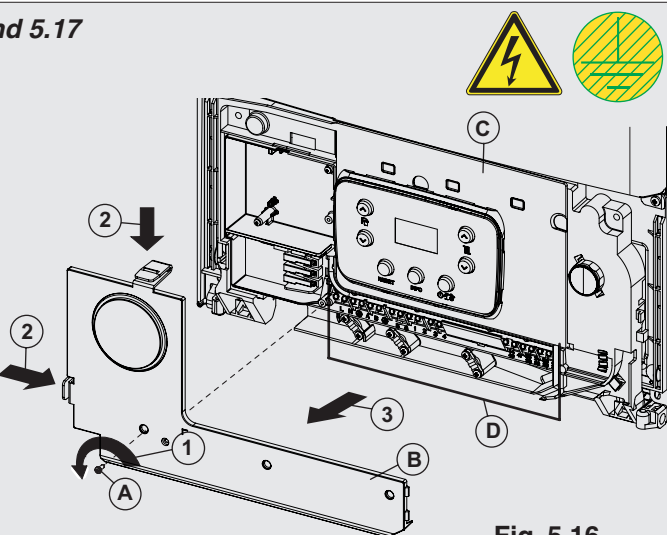

Fig. 5.16
### 5.11 CONNECT THE MAINS SUPPLY - Figs. 5.16 and 5.17
1. Remove the one screw 'A' in Fig. 5.16.